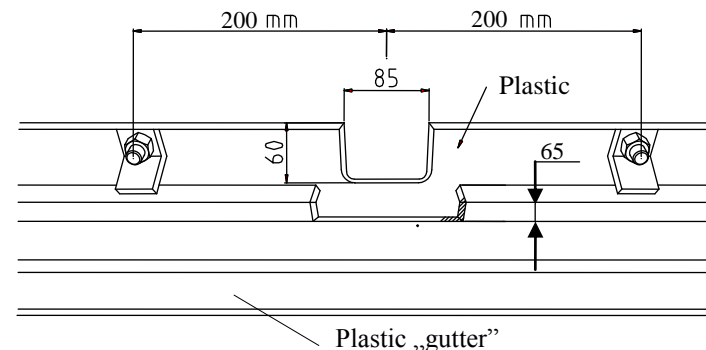

Fig 2.
3. Put main bar of the towbar (pos. 1) to chassis members and fix by bolts M12x40mm (pos. 5) in points pos. A.
5. Diassemble main bar. Fix main bar and the bumper together. NOTE! Cut out fragments of the bumper before join - see figure 2.
7. Fix body of the automat and the socket plate (pos. 3) using bolts M12x25mm from accessories. Place tow-ball according to supplied instruction.